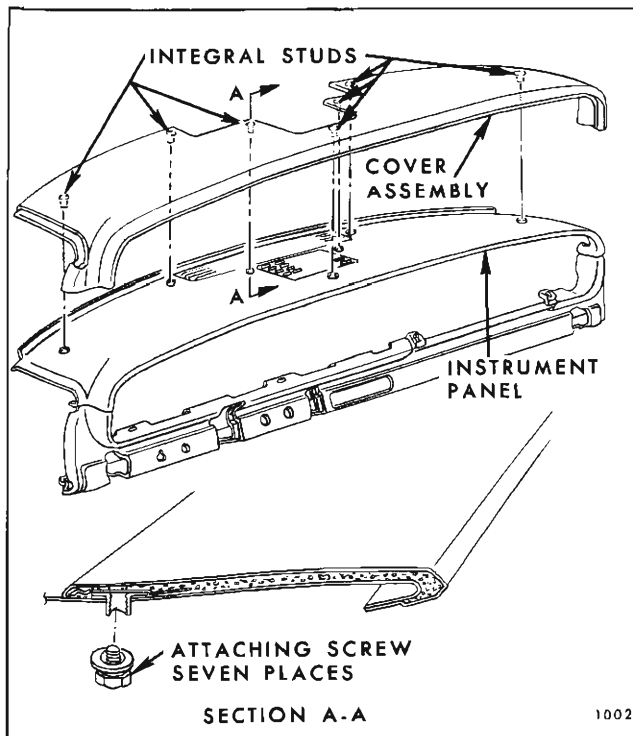

Fig. 1C18—Instrument Panel Cover - Chevrolet
3. To install, apply a bead of medium-bodied sealer to shroud panel completely around inside perimeter of opening and reverse removal procedure (Fig. 1C17).
The instrument panel cover is secured to the upper instrument panel by studs and screws (Fig. 1C18).